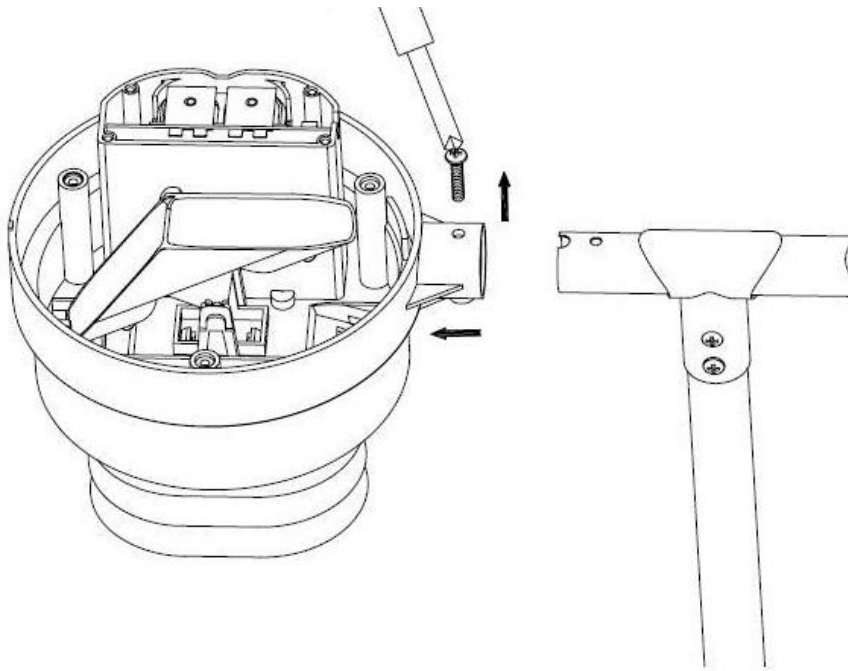

Figure 14
5. Unscrew the set screw from the rain gauge assembly, as shown in Figure 14. Free the connector wire from the side of the unit and gently pull off the thermo-hygrometer rain gauge assembly from the mounting pole. Do not twist, or you may damage the wire insulation.